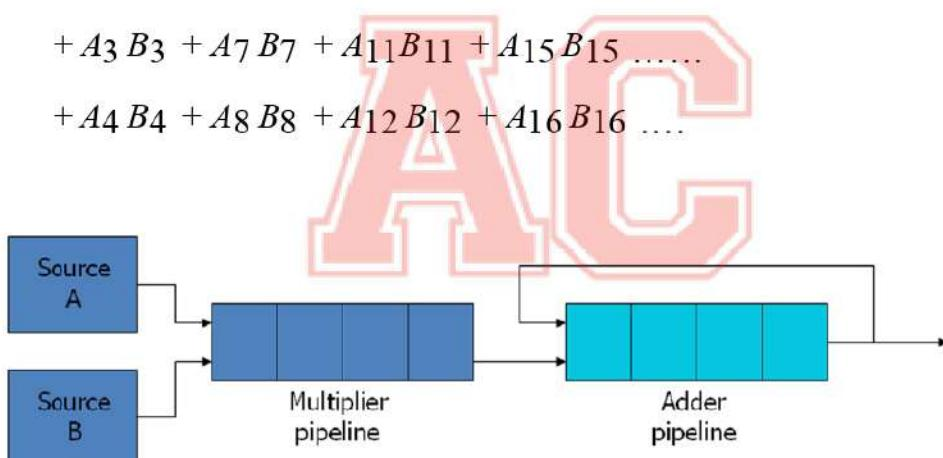

Fig 4-12: Pipeline for calculating an inner product
- The inner product calculation on a pipeline vector processor is shown in Fig. 4-12.